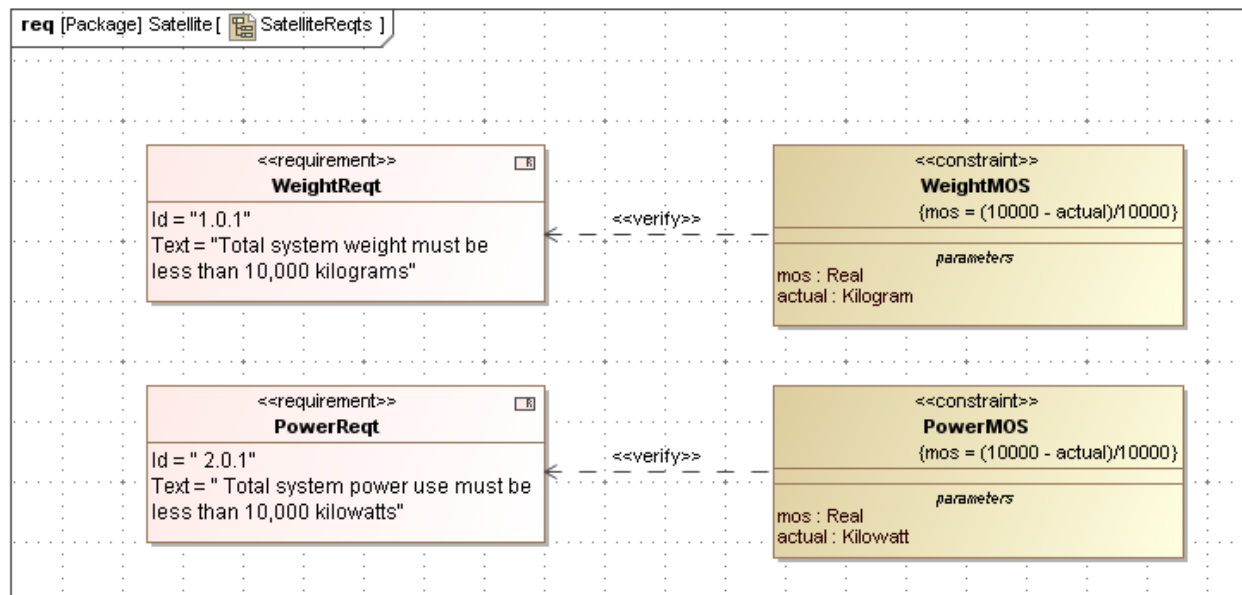

Figure 3.4 SysML Requirements Diagram
- f. Repeat step e. for PowerMOS (see Figure 3.4 for specifics)